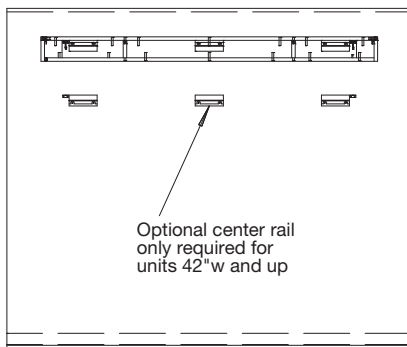

Fig. 3
2. Begin attaching the wall rails (Fig. 3) at either end then using fastener (A) any insuring the rails stay aligned and level. Then (if required) install the intermediate rails, equally spaced, also with fastener (A).